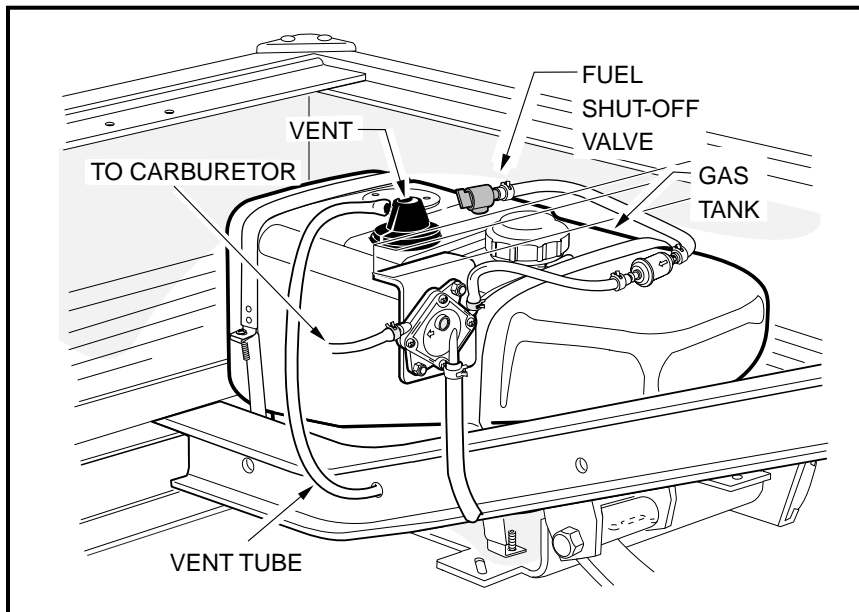
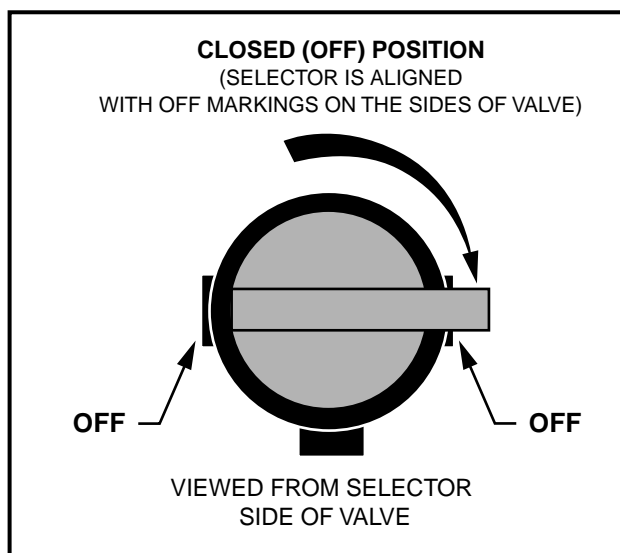

Figure 14-20 Fuel Tank
Figure 14-21 Closed Fuel Shut-off Valve
5. Turn fuel shut-off valve to the closed (OFF) position (**Figure 14-21, Page 14-28**) and run the engine until fuel remaining in the carburetor, fuel pump, and fuel lines is used up and the engine stalls.
The fuel shut-off valve is located on top of the fuel tank (**Figure 14-20, Page 14-26**). The fuel shut-off valve should always be turned to the closed (OFF) position during vehicle storage, towing or trailering (**Figure 14-21, Page 14-28**). Unless the engine will be run as part of a procedure, the fuel shut-off valve should also be closed (OFF) before performing maintenance or service procedures.